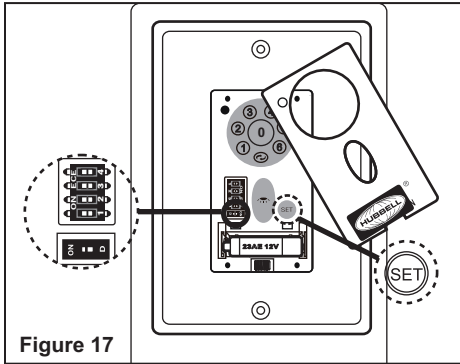

Figure 17
a) Select desired frequency from the transmitter. The dip switches can be set to 16 different combinations. (Fig. 17)
b) From the front of the transmitter, with the fan’s power off, restore power to the fan. Press and hold “SET” button for about 5 seconds and release. If optional light kit is installed, the light kit will flash twice and the signal light on the wall transmitter will come on when the button is pressed. The fan has completed the pairing process with the wall control and is ready for use. (Fig. 17)
1. The “ON” selection is the light dimmable selection and is to be used with all bulbs except for CFL bulbs. The “D” selection is the light ON only (no dimming function) and is to be used with CFL bulbs as CFL bulbs in most cases cannot be used with dimming controllers. (Fig. 17)